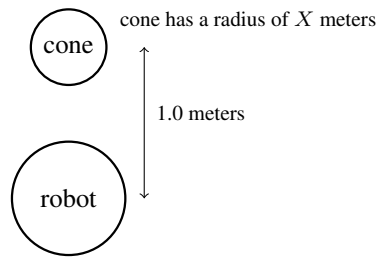

Figure 1: A diagram showing the simulated and physical test environments
In Chapter 6 of Probabilistic Robotics a method of modeling feature-based sensors called the *Landmark Measurement Model* is discussed. In this laboratory we will implement a simplified form of this model that looks for a landmark (a cone) at a known location. The physical environment that you will use is a simplified form of the one you used in Laboratory 3, which is illustrated in Figure 1, where  $X$  is the experimentally determined radius of the cone you computed in Laboratory 3.
- Now test your EKF localization algorithm with a physical setup in the laboratory that reflects the same environment as in Figure 1. Again, collect 30.0 seconds of data recorded at 10.0 Hz and plot the mean of the belief